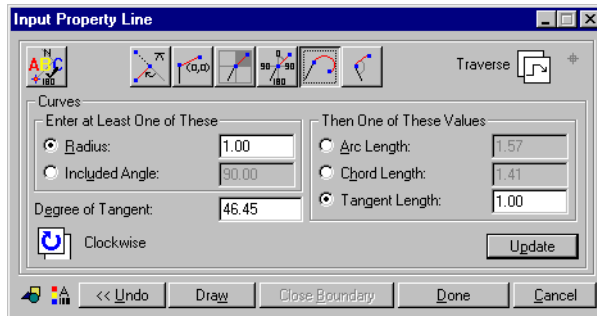

Figure 2-30 Input Property Line – Curves Dialog Box
15. Click on the Curves icon to display the Input Property Line – Curves dialog box (Figure 2-30 on page 53).